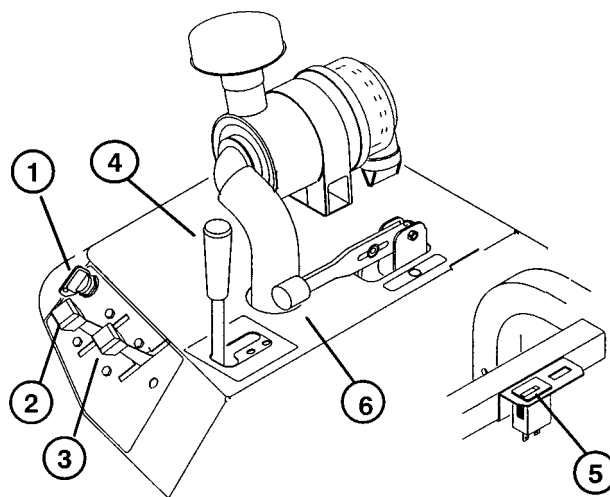

Figure 7
**Ignition Switch** (Fig. 7)—The ignition switch, used to start and stop the engine, has three positions: OFF, RUN and START. Turn the key clockwise—START position—to engage the starter motor. Release the key when the engine starts. The key will move automatically to the RUN position. To shut the engine off, turn the key counterclockwise to the OFF position.
**Choke Control** (Fig. 7)—To start a cold engine, close the carburetor choke by moving the choke control forward to the “CLOSED” position. After the
**Throttle Control** (Fig. 7)—A lever connects to and operates the throttle linkage to carburetor. The throttle control has two positions: SLOW and FAST. Engine speed can be varied between the two settings.
**Hour Meter** (Fig. 7)— Shows the total hours of machine operation. The hour meter operates whenever the key switch is turned to “ON”.
**Lift Lever** (Fig. 7)—To raise the implement, pull the lever up; to lower implement, push the lever down. When the desired position is attained, release the lever and it will return to neutral.
**Parking Brake** (Fig. 7)—To engage the parking brake, pull back on the lever. To disengage the brake, push the lever forward.